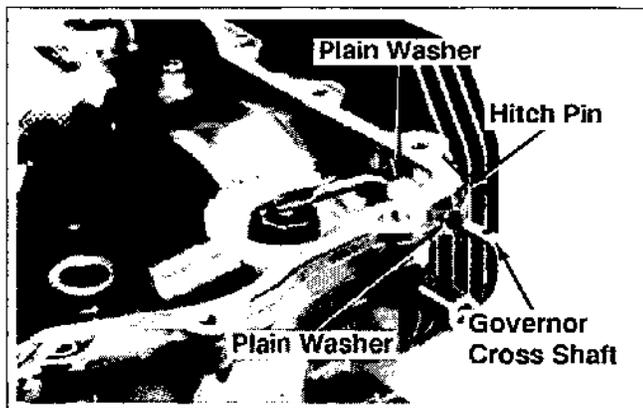

Figure 9-46. Removing Governor Cross Shaft.
1. Remove the hitch pin and plain washer from governor cross shaft. See Figure 9-46.